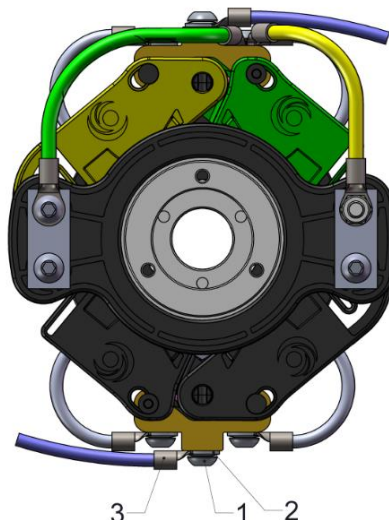

Fig. 13
- Remove the screw (1) and the washer (2) (Fig.13);
- Position the terminals (3) on the threaded hole;
- Secure the terminals with the screw (1) and washer (2).